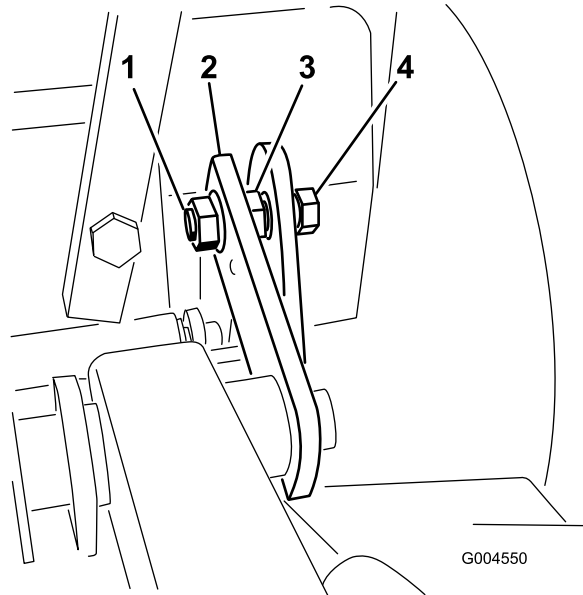

Figure 51
9. Adjust the bolts so the end of the bolt is flush with the nut. This will allow the bushing to roll in the slot in the mower deck bracket (Figure 51).